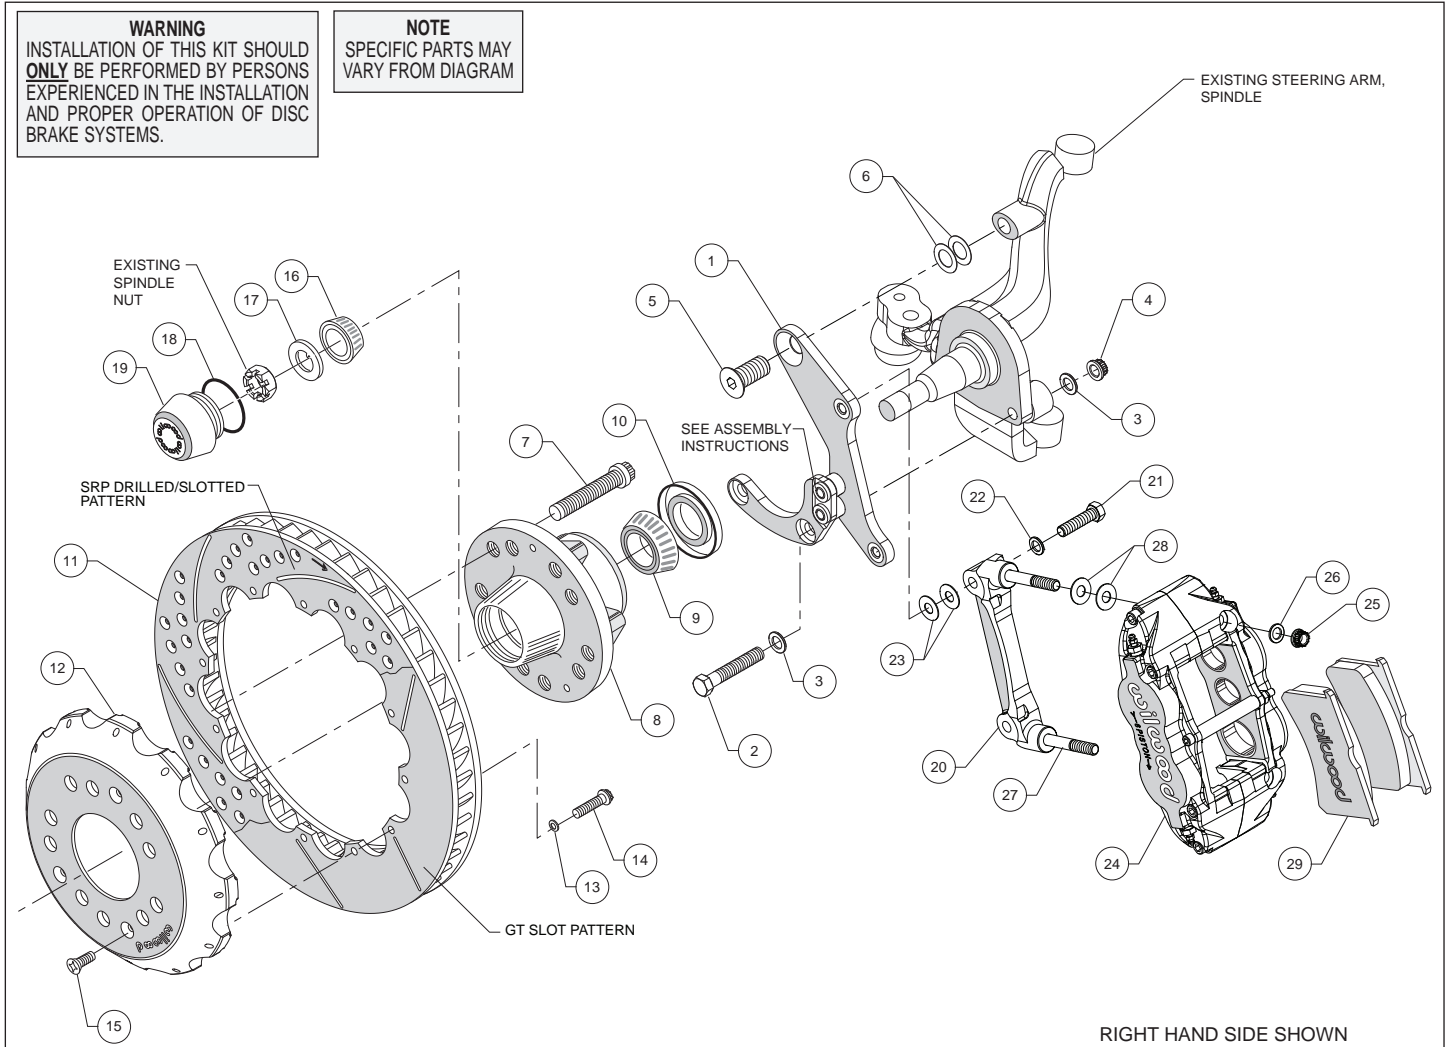
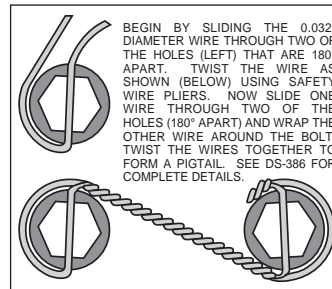
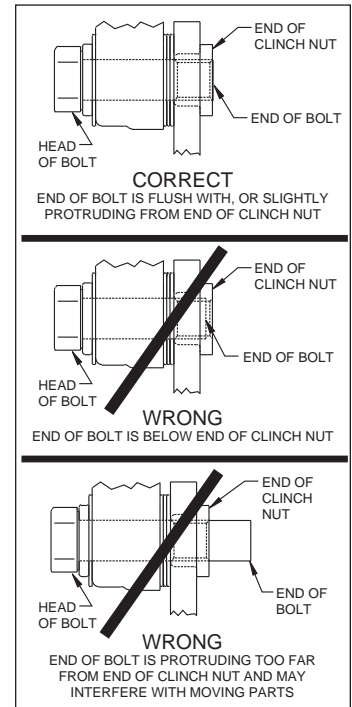

Figure 1. Typical Installation Configuration
Figure 3. Safety Wire Diagram
Figure 4. Clinch Nut Engagement Diagram
**Assembly Instructions** (numbers in parenthesis refer to the parts list and Figure 1 on the preceding pages): **CAUTION:** All mounting bolts must fully engage clinch nuts. Be sure to check that all bolts are either flush or protruding through flanged side of clinch nut after shimming, Figure 4.
- The spindle bracket (1) has been assembled at the factory for alignment purposes. Loosen the two bolts that secure the brackets together so that the bolts are hand tight only. This will enable the bracket assembly to be adjusted to accommodate various spindle tolerances during assembly. Align bracket with the two lower holes on the spindle face and attach using bolts (2), washers (3), and secure using nuts (4), as shown in Figure 1 and Photo 1. Install bolt (5) through top of bracket while placing shims (6) between bracket and spindle, Figure 1. Initially use two .024" thick shims (6) on the top bolt between the bracket and upright. Temporarily tighten the mounting bolts. Ensure that the flanged heads of the clinch nuts in the bracket are facing outboard, Photo 1. **NOTE:** The bracket must fit squarely against the mounting points on the spindle. Inspect for interference from casting irregularities, machining ridges, burrs, etc.
- Check that the bracket is aligned parallel to the rotor by assembling and installing the hub/rotor per the step below. If not, adjust by adding or subtracting shims (6) between the spindle and bracket, Figure 1.
- Install wheel studs (7) into the hub (8), Photo 2. Torque to 77 ft-lb. **NOTE:** There are two five lug patterns in the hub (5 x 4.50 and 5 x 4.75). Ensure the correct hub stud pattern is being used to fit the wheel application.
- Pack the large inner bearing cone (9) with high temperature disc brake bearing grease (available from your local auto parts store) and install into the backside of the hub (8), Photo 3.
- Install the grease seal (10) by pressing into the backside of the hub (8), flush with the end of the hub, Photo 3.
- Orient the rotor (11) and the hat (12) as shown in Figure 1 and Photo 4. Attach rotor to hat using bolts (14) and washers (13). Using an alternating sequence, apply red *Loctite*® 271 to the threads, and torque to 155 **in-lbs**. For an added measure of security, the bolts may be safety wired using standard 0.032 inch diameter stainless steel safety wire as shown in Figure 3.
- The caliper mount bracket (20) should initially be installed with clean, dry threads on the mounting bolts. Orient the bracket as shown in Figure 1 and Photo 7, and install using bolts (21) and washers (22). Initially place two .035" thick shims (23) on each bolt between the bracket and the spindle bracket (1), Figure 1. Temporarily tighten the mounting bolts. Later, after the caliper alignment has been checked, the mount bolts will be secured using red *Loctite*® 271.
- **NOTE:** *This kit contains distinct right and left hand calipers that must be mounted in a specific direction, as described below.* Lubricate the caliper mounting studs (27) with lightweight oil. Initially place two .035" thick shims (28) on each stud between the caliper and the bracket, as shown in Figure 1 and Photo 8. Mount the caliper (24) onto the bracket (27) using lock nuts (25) and washers (26), Figure 1. Ensure that the caliper is mounted so the largest pistons are at the rotor exit end of the caliper, in relation to the direction of rotor rotation. Temporarily tighten the lock nuts and view the rotor through the top opening of the caliper. The rotor should be centered in the caliper, Photo 9. If not, adjust by adding or subtracting shims (23) between the spindle bracket (1) and the caliper bracket. Always use the same amount of shims on each of the two mounting bolts. **NOTE:** *The end of each bolt must be flush with or slightly protruding from the head of the clinch nut, as shown in Figure 4. If necessary place spare shims between washer (22) and caliper mounting bracket to achieve the proper clinch nut engagement. Once the caliper alignment and clinch nut engagement are correct, remove the bolts one at a time, apply red *Loctite*® 271 to the threads, and torque to 40 ft-lb.*